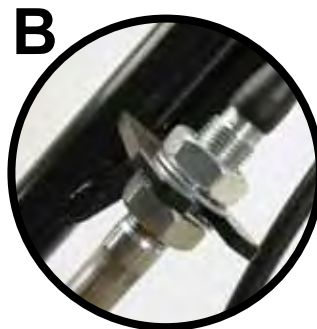

Fig. 010
2. Adjust the Cable Housing Anchor Nuts so there are an equal number of threads on each end and re-tighten (B - Fig. 010).